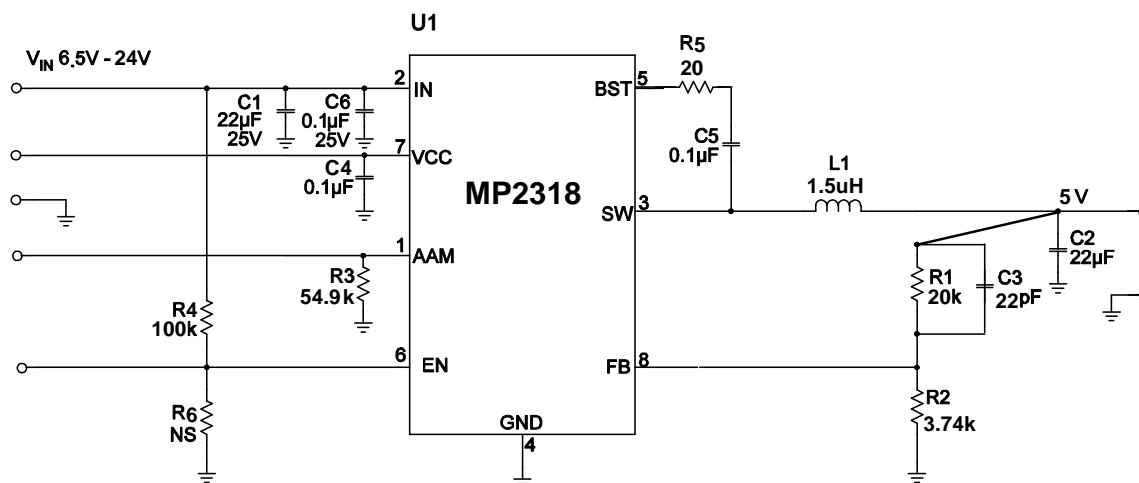

Figure 10:  $V_{in}=19V$ ,  $V_o=5V$ ,  $I_o=2A$
- 6) The recommended layout is based on the Figure 10 Typical Application circuit on the page 16.
The detailed application schematics are shown in Figures 10 through 15. The typical performance and circuit waveforms have been shown in the Typical Performance Characteristics section. For more device applications, please refer to the related Evaluation Board Datasheets.